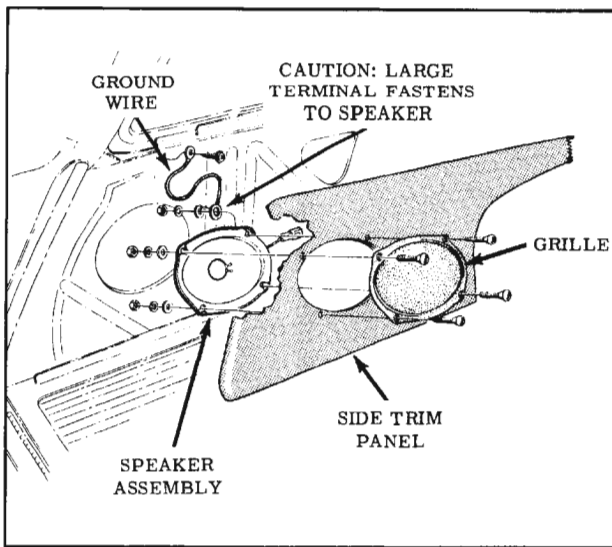

Fig. 13-16 Rear Seat Speaker (Fiestas)
3. Remove speaker assembly from the quarter panel. (Fig. 13-16)